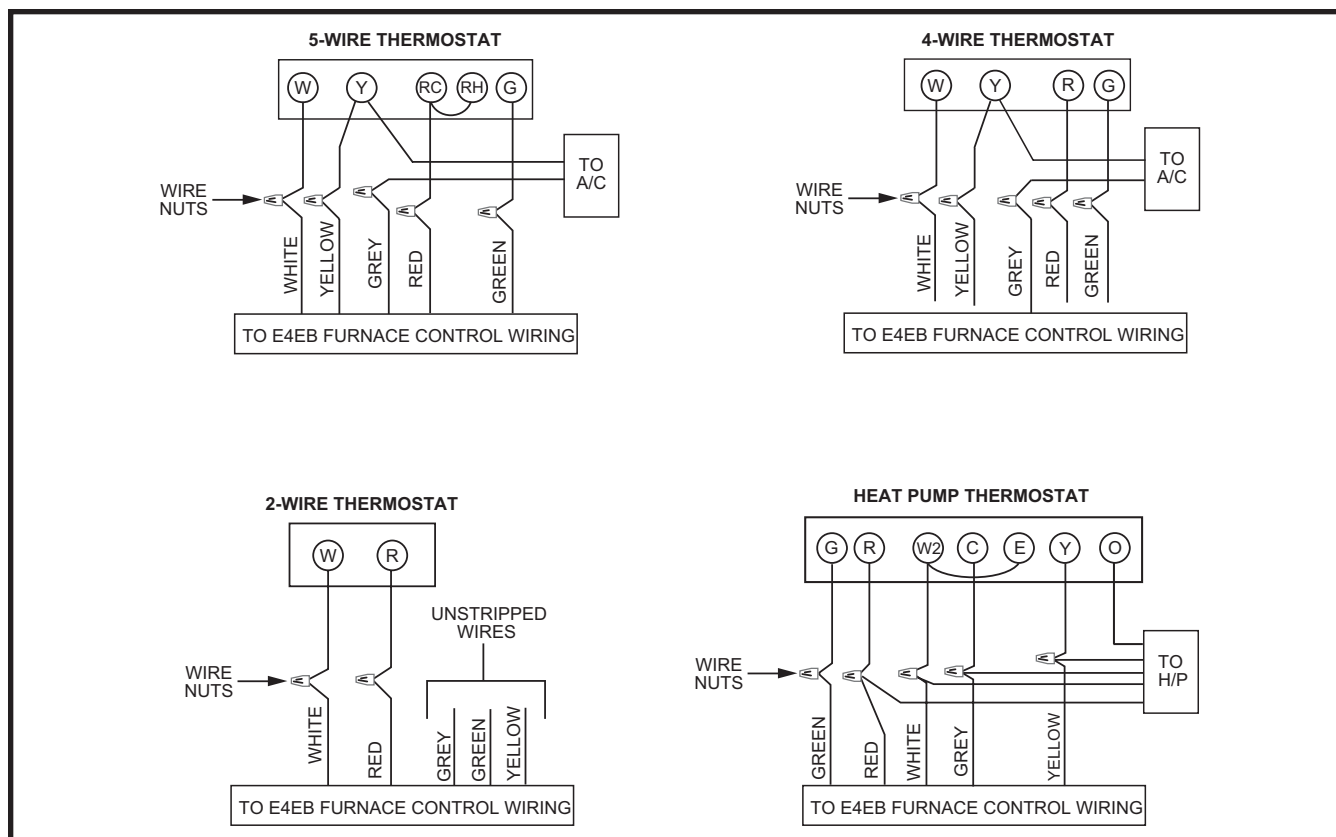

Figure 21. E6EB Thermostat Connection
- The thermostat should be mounted about 5 feet above the floor on an inside wall. DO NOT install the thermostat on an outside wall or any other location where its operation may be adversely affected by radiant heat from fireplaces, sunlight, or lighting fixtures, and convective heat from warm air registers or electrical appliances. Refer to the thermostat manufacturer's instruction sheet for detailed mounting information. See Figure 21 (page 16) for typical thermostat connections.
NOTE: Installation of a five-wire thermostat circuit is recommended for future addition of a heat/cool thermostat. See Figure 21 \(page 16\) for various E6 thermostat connections.